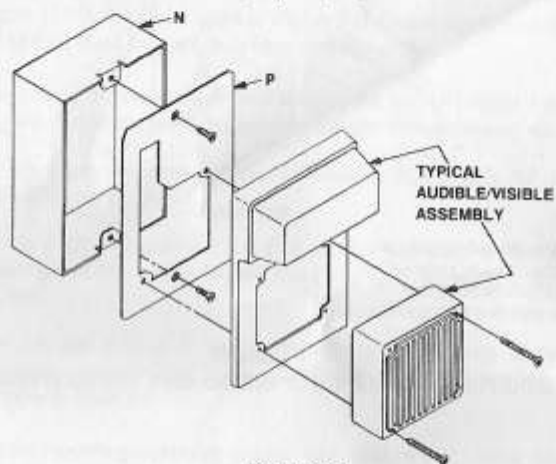

Figure 18
- (See Figure 18) For surface or retrofit mounting, follow the procedure below:
1. Mount 2975-9145 back box (N) to wall.
2. Attach 4905-9903 retrofit/surface mounting plate (P) to back box (N).
3. Mount audible/visible assembly to plate (P).